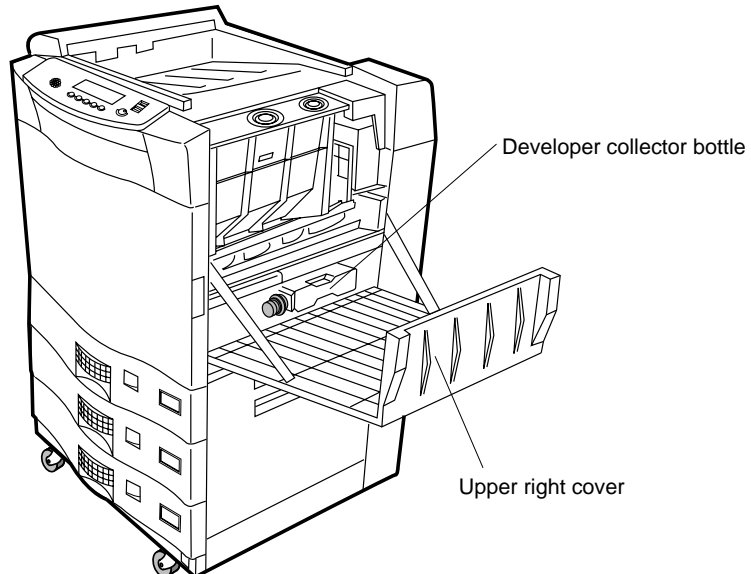

Figure 4-15 Developer and Developer Collector Bottle
1. Open the upper right cover and locate the developer bottle as shown in Figure 4-15.